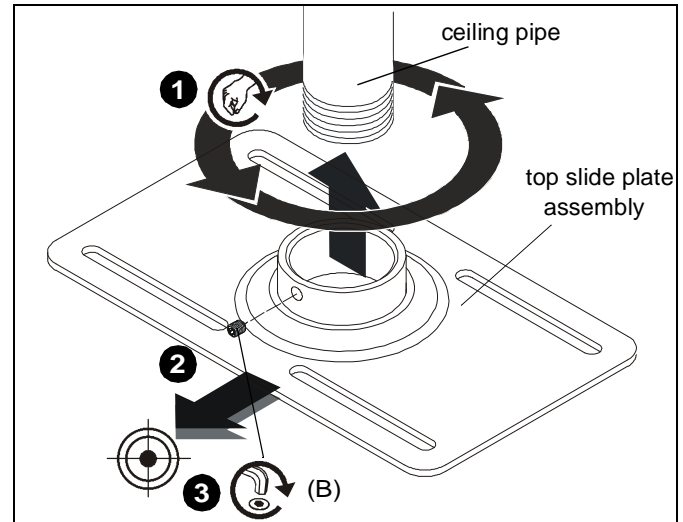

Figure 7
- Thread top slide plate assembly onto ceiling pipe until it cannot be tightened any further. (See Figure 7)
- Adjust top slide plate assembly back clockwise until set screw hole is facing target. (See Figure 7)
- Insert 5/16-18 x 1/4" set screw (B) into access hole to secure top slide plate to ceiling pipe. (See Figure 7)